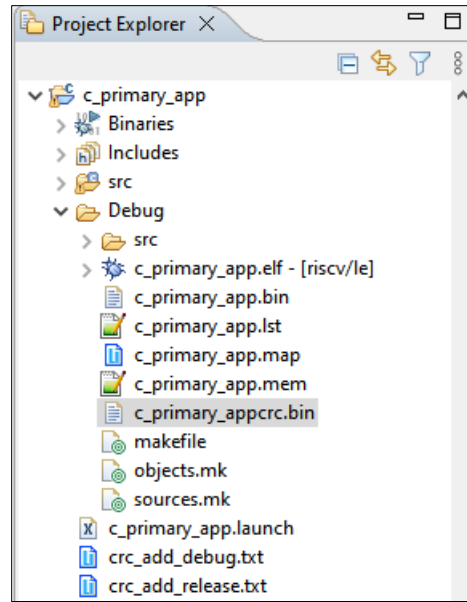

Figure 7.52. FreeRTOS App Binaries Created with CRC
20. This creates the debug folder and the following file with **c_primary_appcrc.bin** binary with CRC as shown in Figure 7.52.